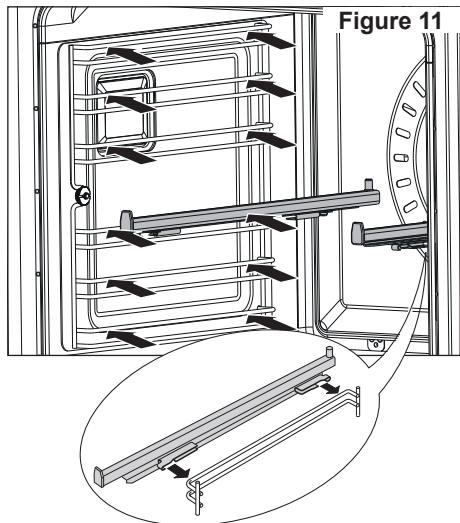

Figure 11
- Fit the sliding shelf support onto the top wire of a rack and press (fig. 11). You will hear a click as the safety locks clip over the wire.